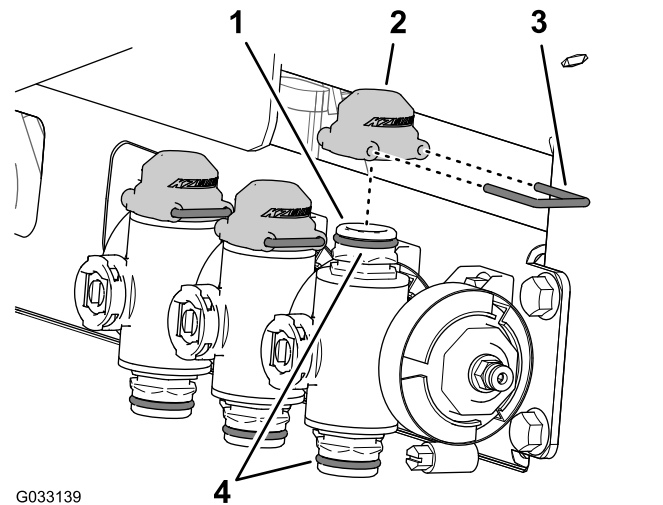

Figure 58
3. Lubricate the upper and lower O-rings on the quick coupler of the manifold valve with the grease provided with the quick-coupler cap (Figure 58).
4. Assemble the 3 caps for the quick couplers onto the 3 quick couplers for the manifold valves (Figure 58).
5. Secure the 3 caps to the 3 quick couplers with the 3 retainers (Figure 58).